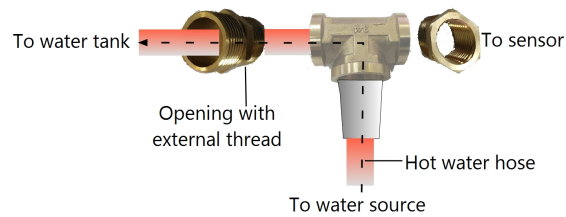

Figure 3: T-joint fitting connection
2. Connect the T-joint fitting to the water tank (See Figure 3):